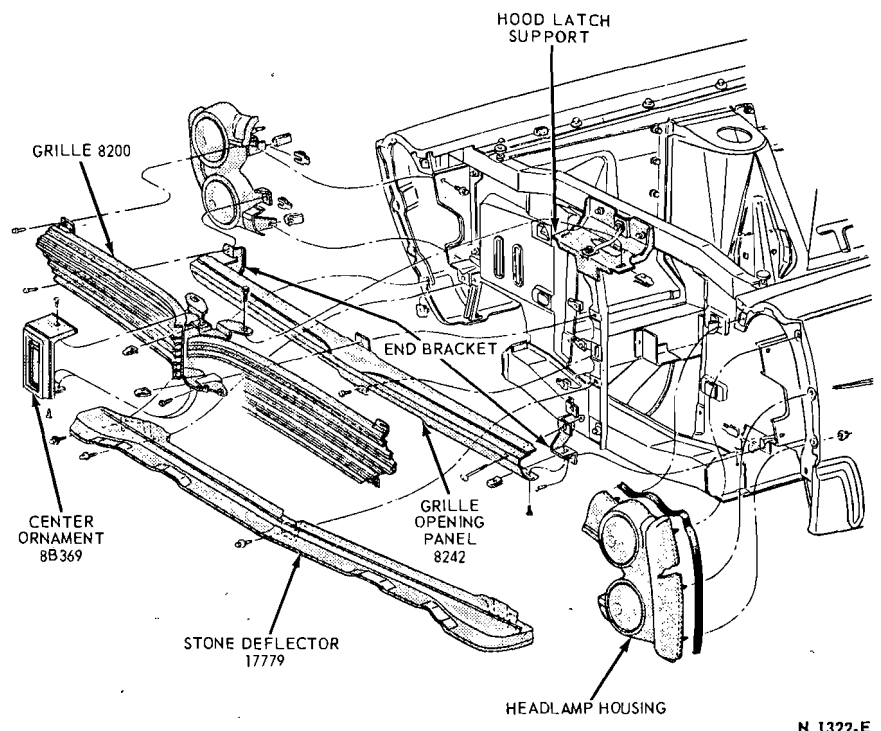

FIG. 4—Mercury Intermediate Grille Assembly Installation
1. Remove two grille to headlight housing attaching screws from each end of the grille (Fig. 4).